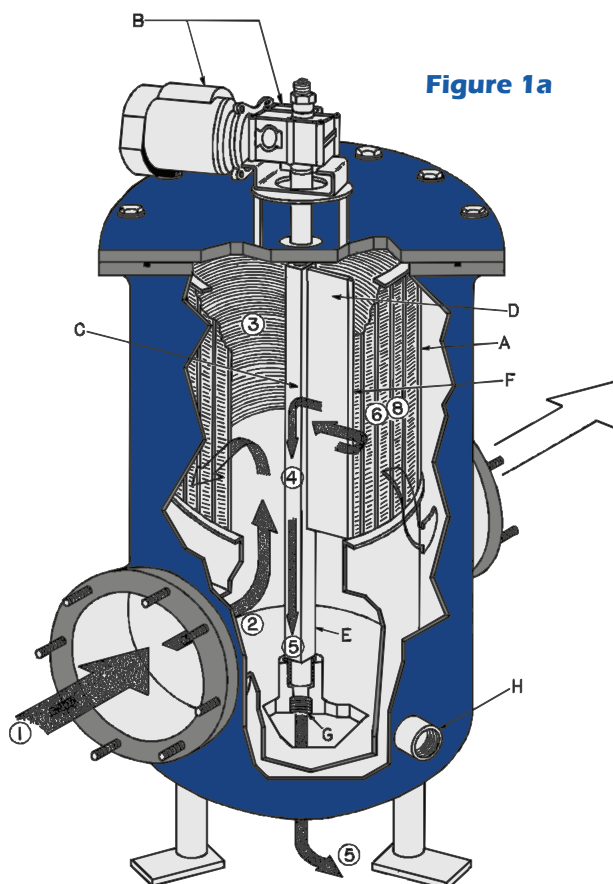
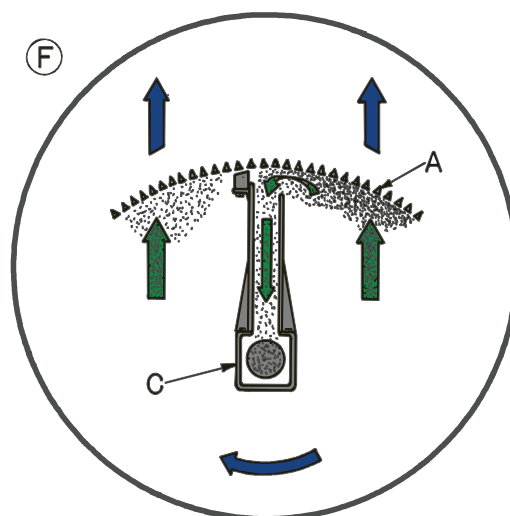

Figure 1a
Figure 1b
1. Debris laden fluid enters through inlet to inner chamber (Figure 1a).
2. Dirty fluid flows upward to the strainer element (A).
3. Debris is retained on the flat face of the strainer element, while stained fluid continues to outer chamber and exits through strainer outlet (See Figure 1a).
4. During backwash or cleaning cycle, the motor/gear reducer (B) is engaged and drives the hollow drive shaft (C) and hollow port (D) around the inner circumference of the strainer element.
6. Flow reversal occurs at the port/straining element (F) interface because of the pressure differential described in 5 (See Figure 1b).
7. Debris is effectively vacuumed from the full length of the straining element by a vigorous reverse fluid flow and into the hollow port; down the hollow drive shaft and out the backwash outlet (G).